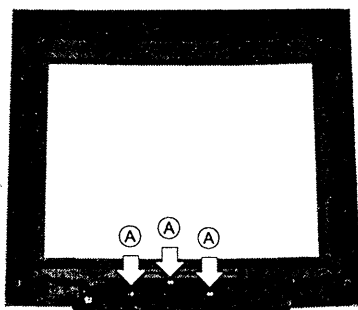

Figure 2-7 Remove the Control Board
1. Remove the three screws from the control board. Refer to the figure 2-7 (A).